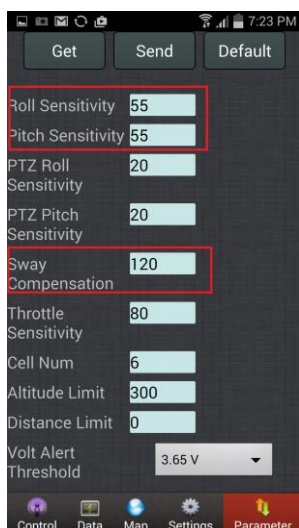

Figure 51
- **Mobile ground station:** open the mobile ground station and click "Parameter", as shown in Figure 51.